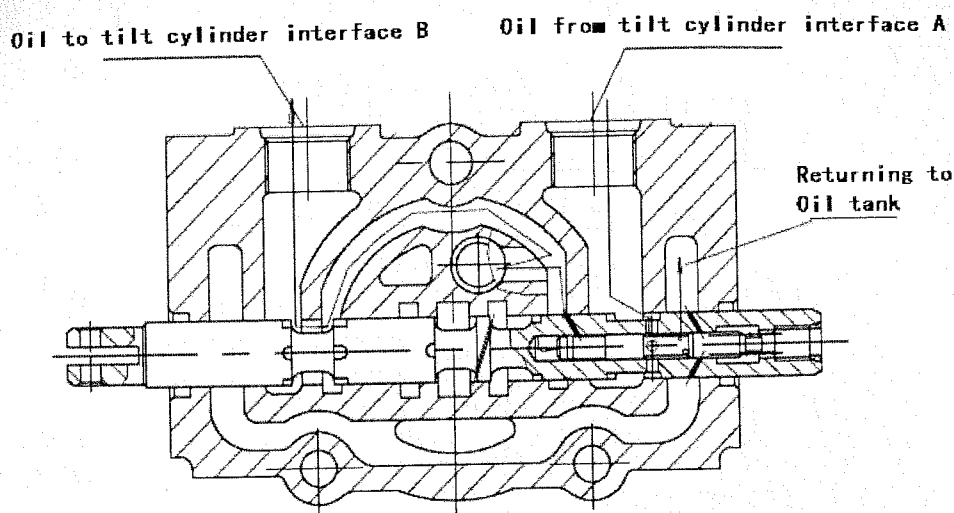

Fig 8-4
(3) Pull-out Spool Valve (Fig 8-4)